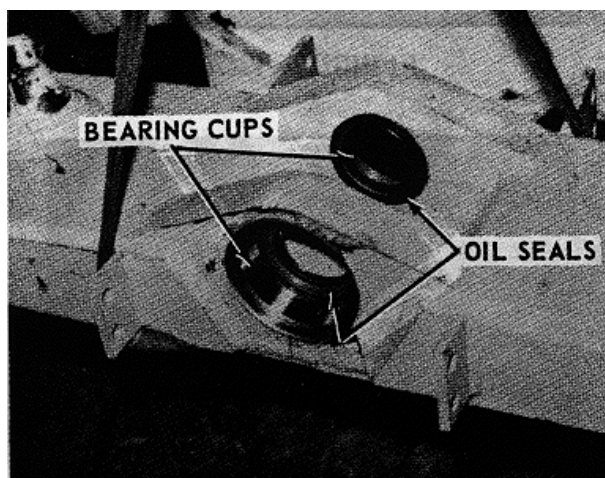

FIGURE 9-122.
a. Install bearing cups into gooseneck housing if removed during disassembly (see figure 9-122).
c. Install bearing cone and oil seal into gooseneck (see figure 9-122).